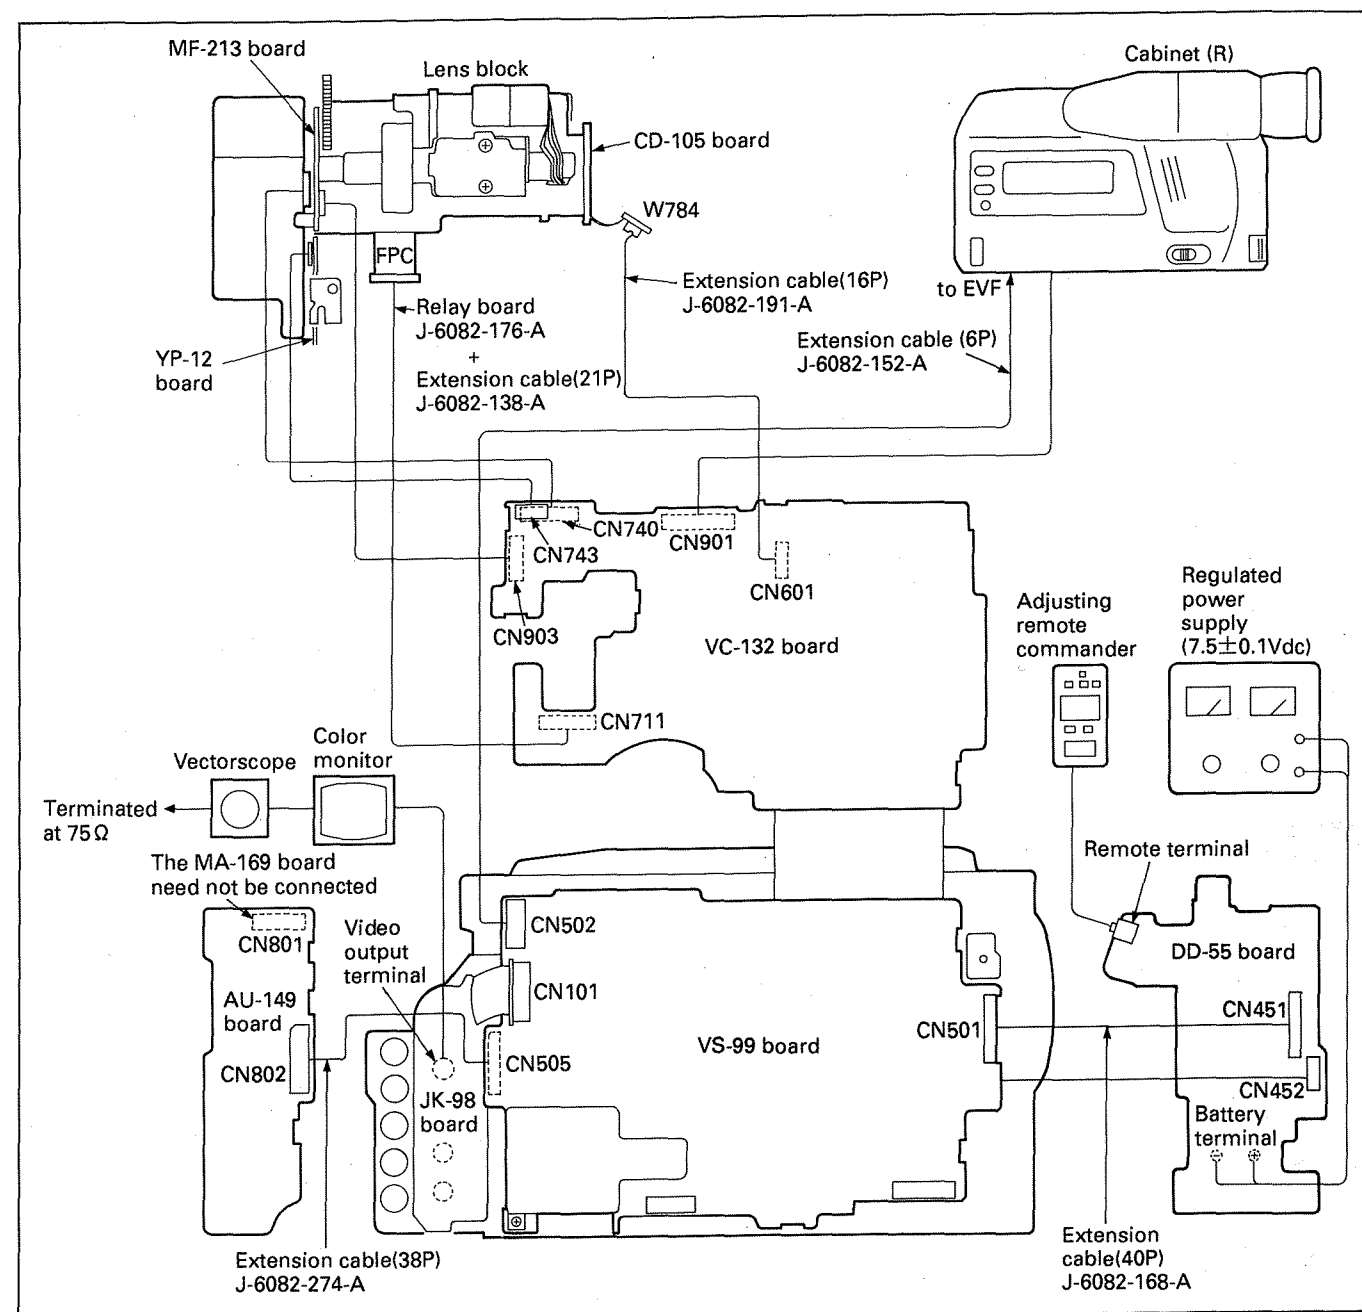

Fig. 7-3.
- 1) Connect the equipments for adjusting as shown in Fig. 7-3